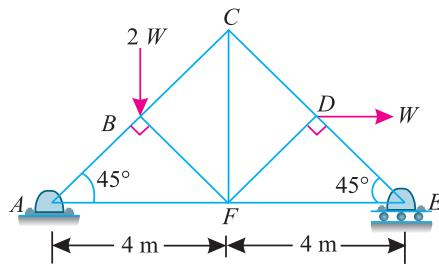

Fig. 13.43.
**Example 13.12.** A truss of 8 metres span, is loaded as shown in Fig. 13.43.